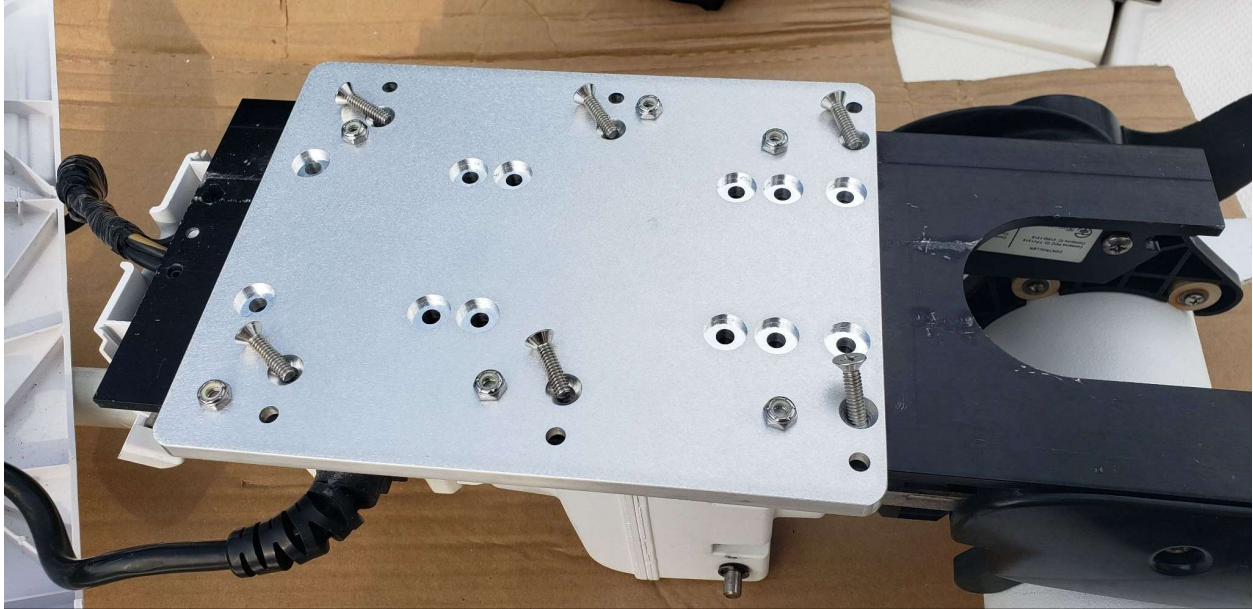

Figure 2.
- Figures 2 and 3 show which fasteners to use and their locations. **Do not tighten yet.**